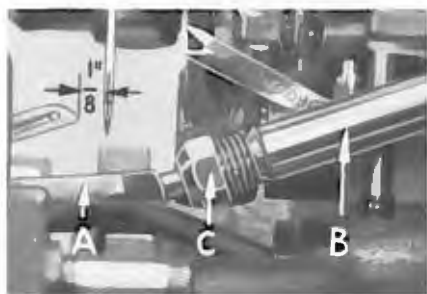

Fig. 5
Insert the 503 stitch lower looper (A, Fig. 5) into bar (B). With lower looper at left end of its stroke set looper point  $1/8$  inch from center of needle (Fig. 5) using looper gauge No. 21225- $1/8$ . Do not have lower looper deflecting needle. Do not lock looper nut (C) because the looper point will have to be set to the needle scarf after the rear needle guard has been assembled and positioned. (See paragraph under "Final Setting of Lower Looper.")
Now finish lower looper adjustment. As lower looper moves to the right its point should be set into the needle scarf (A, Fig. 7) until the needle springs forward from the rear needle guard surface another .002 to .004 inch. This setting is obtained by rocking the looper forward or backward around its shank. Recheck the  $1/8$  inch looper gauge setting and tighten nut (C, Fig. 5).